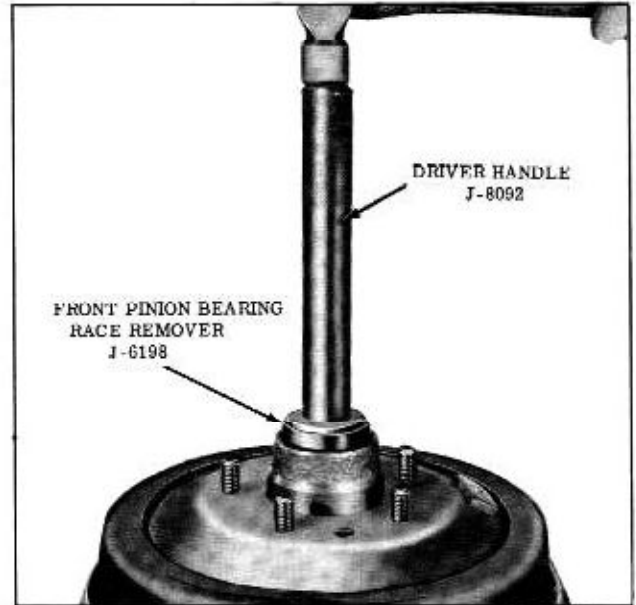

Fig. 5-5 Installing Outer Bearing Retainer Washer
4. Install outer bearing ball and separator into hub. Position washer, which retains ball and separator in the hub, over bearing, and install with Tool J-6198. (Fig. 5-5)